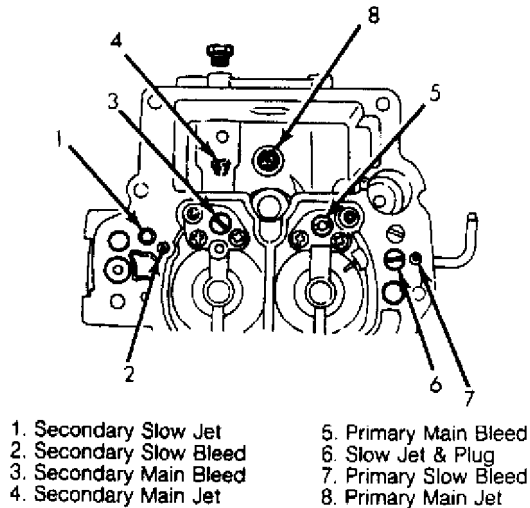

Fig. 12: Locating Air Bleeds & Jets (Main Body)
1) Remove secondary slow jet, secondary slow bleed, secondary main bleed and secondary main jet from main body. See Figs. 12 and 22.